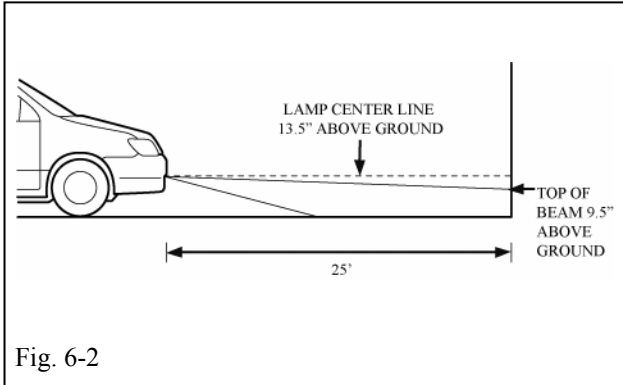

Fig. 6-2
- (1) Turn on head lamps in low beam.
- (2) Turn on fog lamps.
- (3) Confirm fog lamps turn on.
- (4) Confirm fog lamps turn off.
- (5) Alignment check (Fig. 6-2)